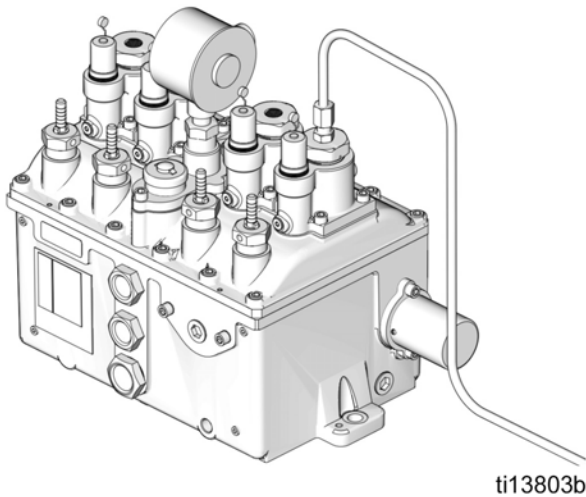

FIG. 1
- Install each pumping unit with a high pressure check valve in the discharge line adjacent to the pump discharge connection so that pump assembly may be removed from reservoir without loss of lubricant in lines (FIG. 1).
- Install a second of these valves at the point of lubrication to prevent line drainage and feedback of system pressure to pump (FIG. 1).